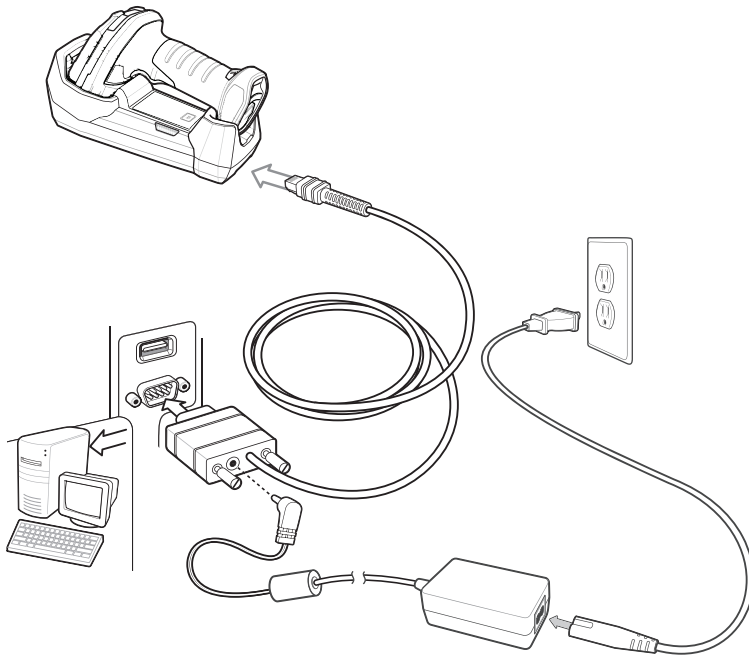

Figure 8-2 *LI3678 Cordless Linear Imager RS-232 Connection*
- ✓ **NOTE** Interface cables vary depending on configuration. The connectors illustrated in Figure 8-2 are examples only. The connectors may be different from those illustrated, but the steps to connect the cradle remain the same.